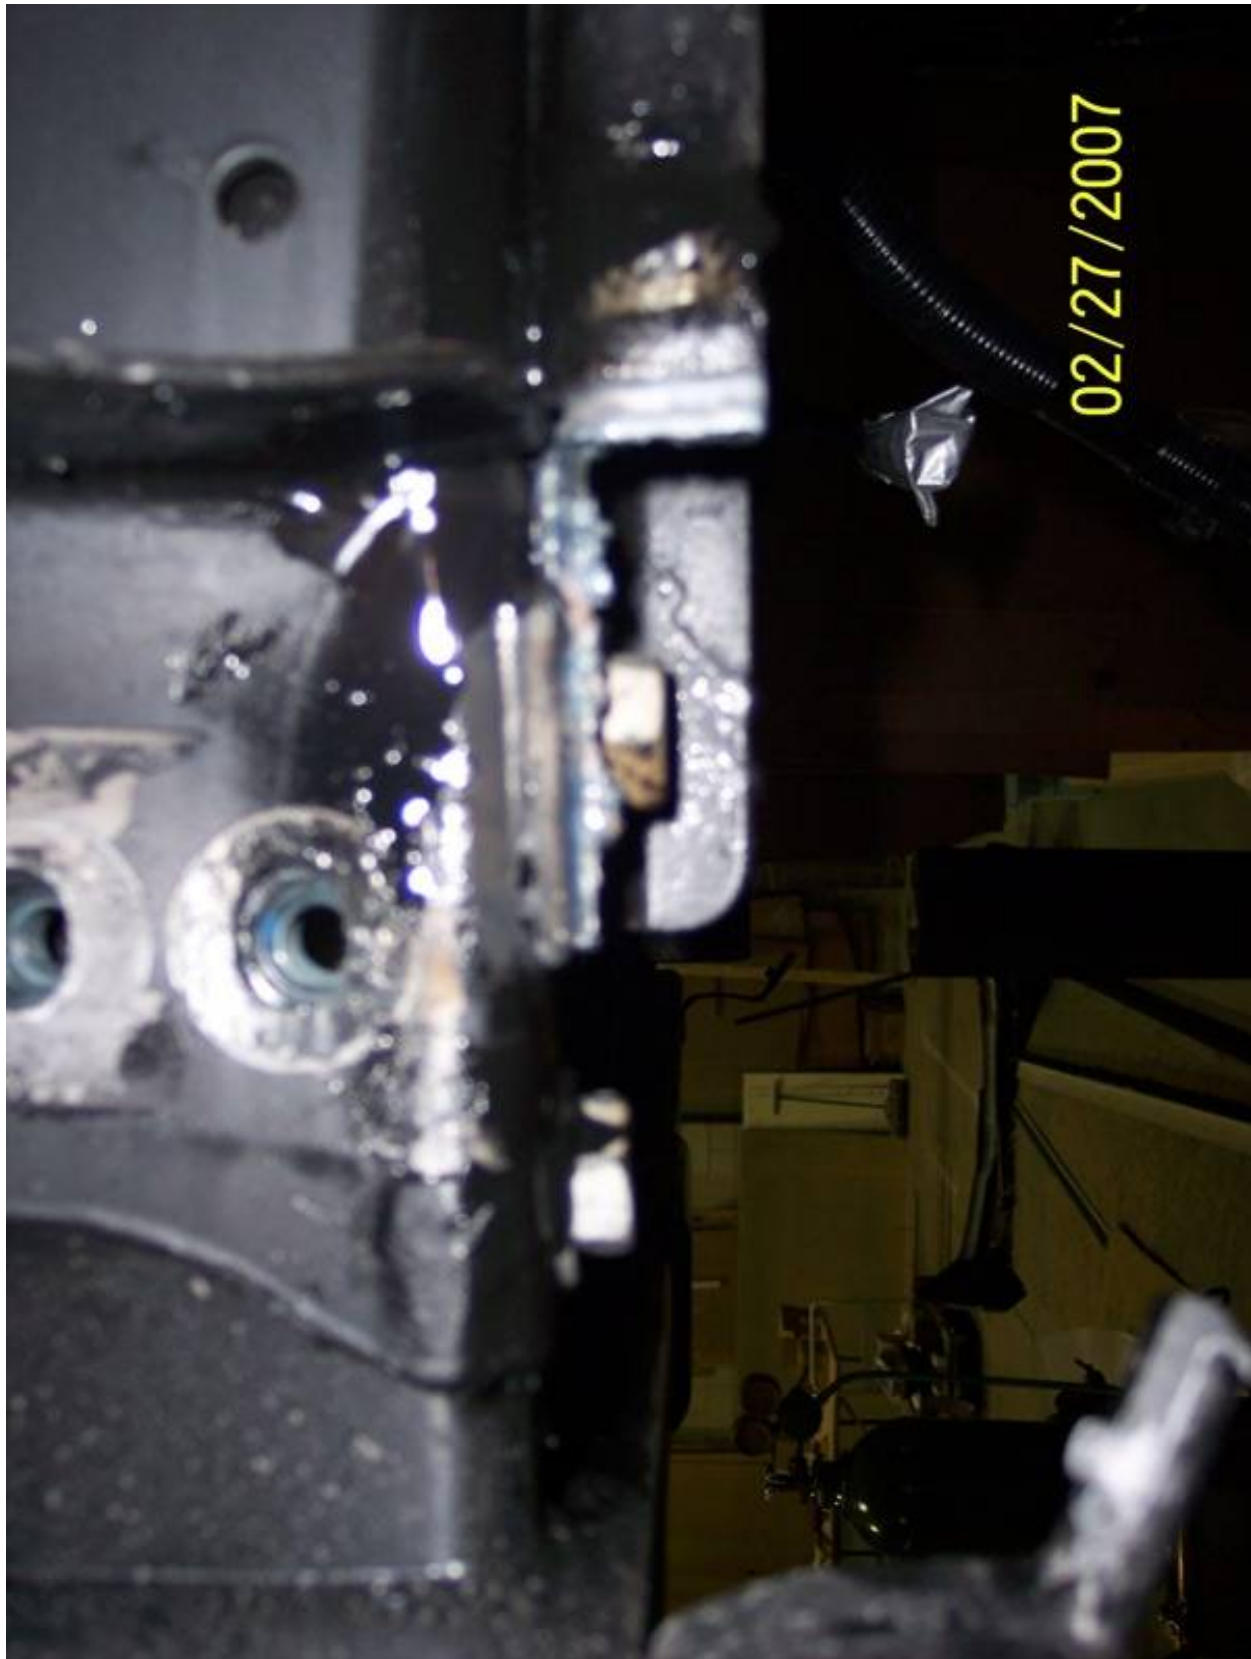

Figure 1
4. It will be necessary to notch the c-channel attached to the bottom of the frame on the driver's and passenger's side as shown in figure 1. This will allow for proper fitment of the rear mounting bracket. Place each rear mounting plate against the underside and outside of the frame rails around the rear spring hangers and body mounts as shown. The two slots on the side of the mounting plate at the front should align with the slot and hole in the side of the frame just ahead of the spring hanger. The two slots on the side of the mounting plate at the rear should align with the OEM rear bumper mounting holes. The angle on the rear mounting plate should fit against the back of the rearmost frame cross member.